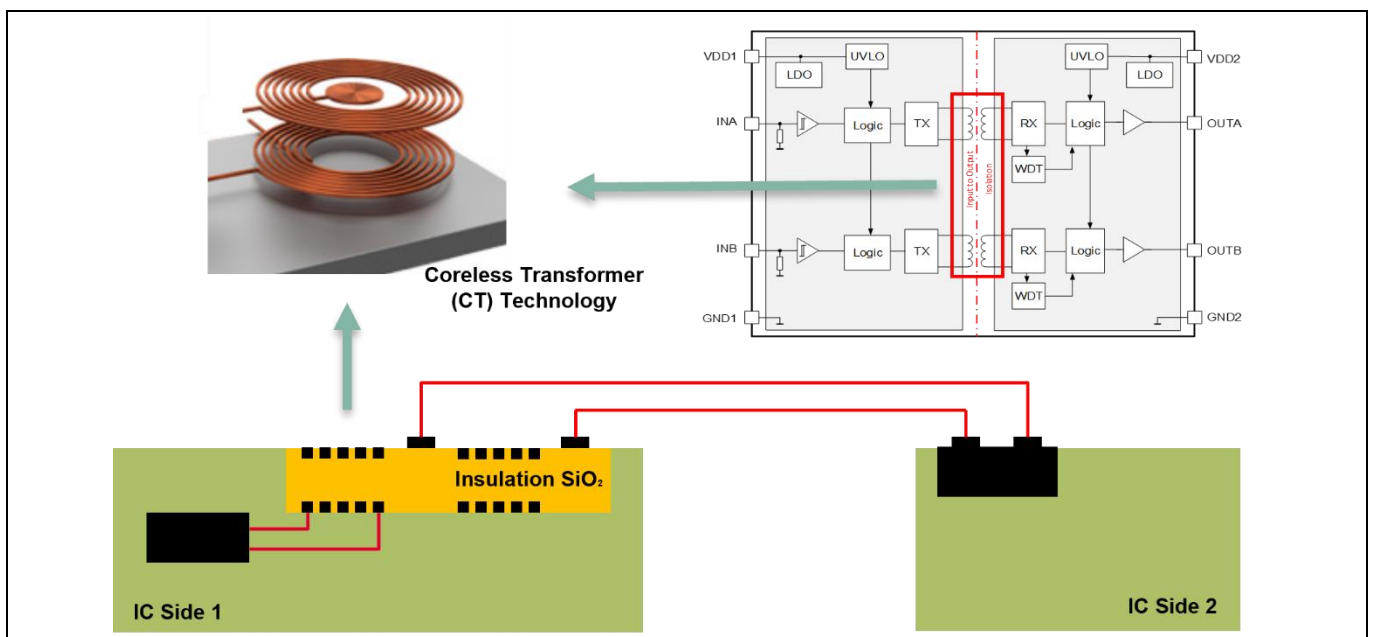

Figure 1 Cross-section of Infineon’s CT, used in the ISOFACE™ digital isolator products
This first digital isolator family uses Infineon’s patented coreless transformer (CT) technology to isolate the signals crossing different voltage domains. It is a magnetically coupled isolated technology, which uses semiconductor manufacturing processes to integrate an on-chip transformer consisting of metal spirals separated by a silicon dioxide (SiO₂) insulation barrier, as shown in Figure 1. The on-chip CTs are used to transmit signals between the input and output chips. In addition, functions such as glitch filter, communication modulation, watchdog and undervoltage lockout (UVLO) are integrated to ensure robust and fail-safe data transmission even in critical industrial environments where high voltages and noises are present.